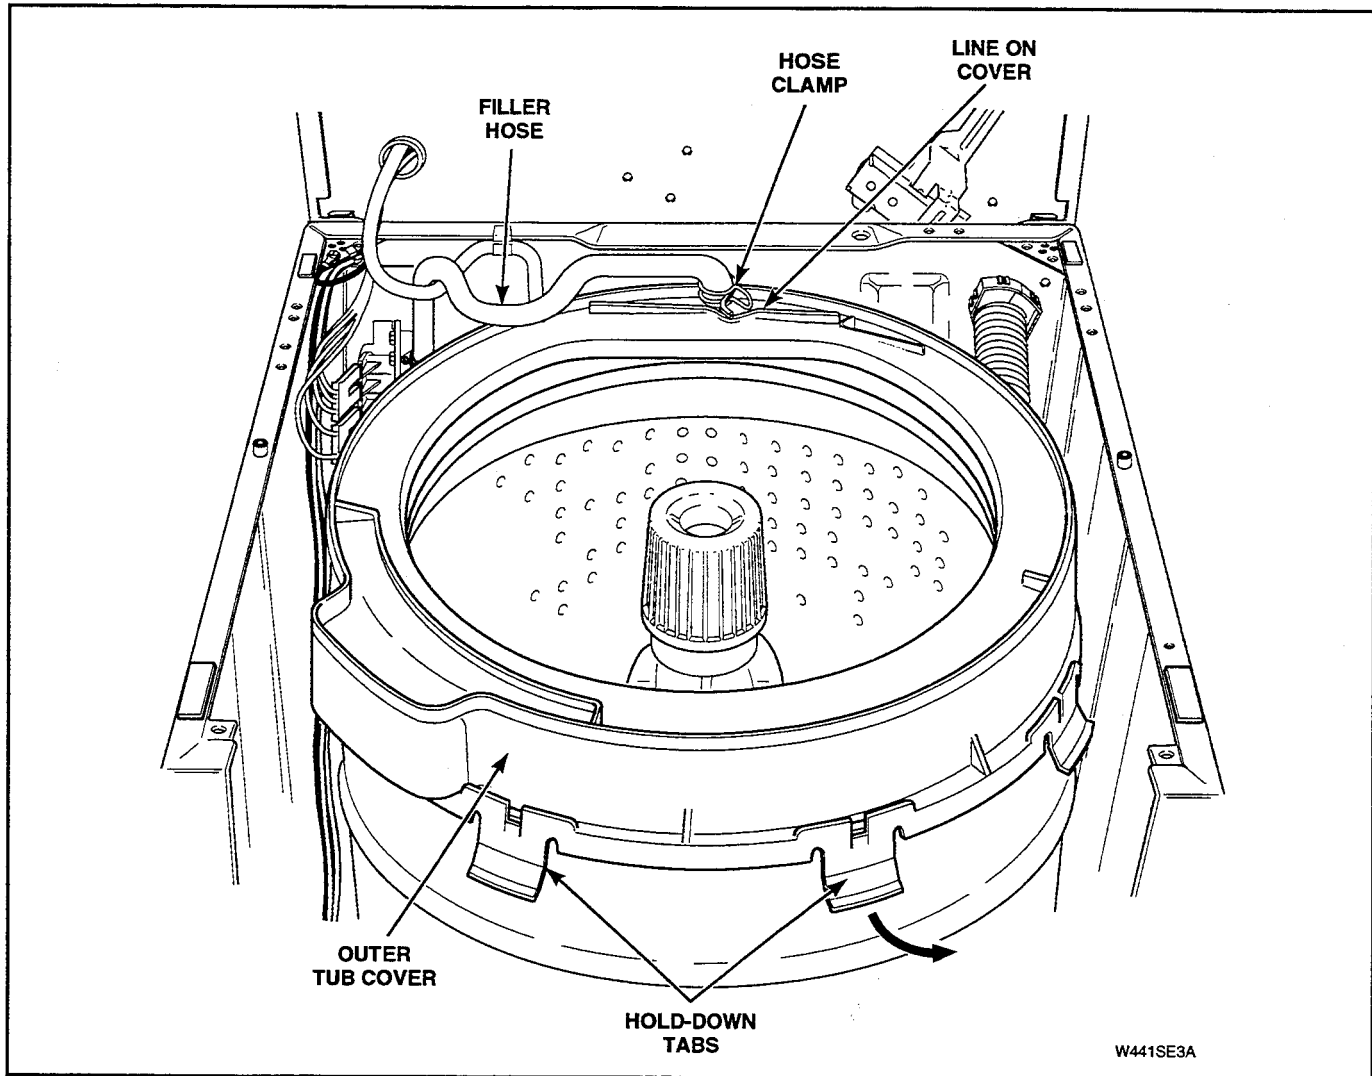

Figure 5-25
- Loosen hose clamp and remove filler hose from outer tub cover. See Figure 5-25.
NOTE: When installing filler hose, white line on hose must be aligned with line located on top side of outer tub cover. See Figure 5-25.
NOTE: When reinstalling filler hose, white line on hose must be aligned with line located on top side of outer tub cover. See Figure 5-25.